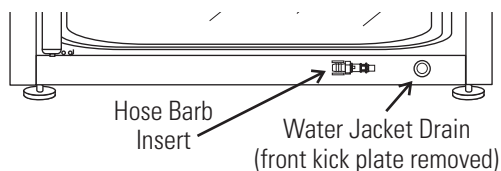

Figure 6-22. Water Jacket Drain and Hose Barb Insert
5. After water jacket has finished draining, remove the hose barb insert and secure on the front of the unit. See Figures 6-22 and 6-23.